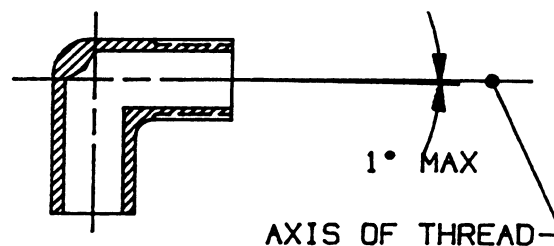

FIGURE 3 - Fluid Passage Hole Runout of Shape Fittings
- 3.2.3.4 Runout: The angular runout from true center for fluid passage holes shall be as shown in Figures 3 and 4. The allowable drill runout is in addition to the angle tolerance specified on the drawing.